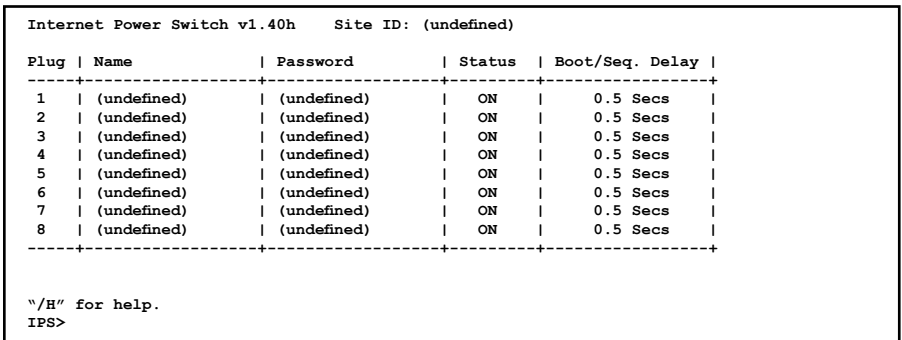

Figure 2: Plug Status Screen - Text Interface (Model IPS-800 Shown)
- i. **Via Telnet:** Telnet to the IPS's default IP address (192.168.168.168). The Plug Status Screen (Figure 2) should be displayed.
- ii. **Via Local PC:** Start your communications program (e.g., Hyperterminal) and then press **[Enter]**. The Plug Status Screen should be displayed as shown in Figure 2. The default communications parameters for the Console Port are 9600 bps, No Parity, 8 data bits, One stop bit.